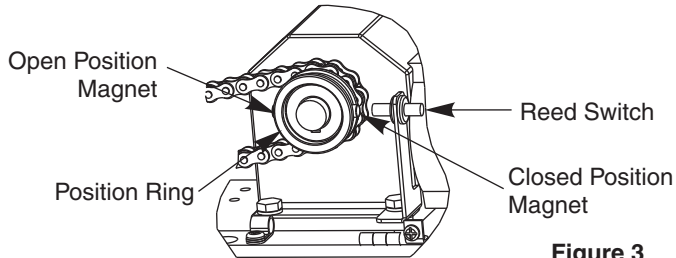

Figure 3
E. Adjust Closing Position Magnet (See Fig. 3) - With door in the closed position, use finger to slide Closed Position Magnet so it aligns directly with the Reed Switch.